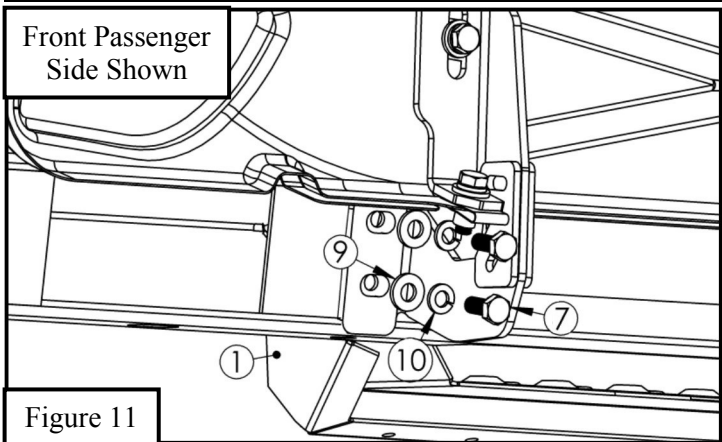

Figure 11
12. For Step Board installation to the previously installed mounting brackets use the supplied M8 hardware with short bolts on center mounting locations and use M8 hardware with long bolt for all other mounting locations. See **Figure 11 and 12**.